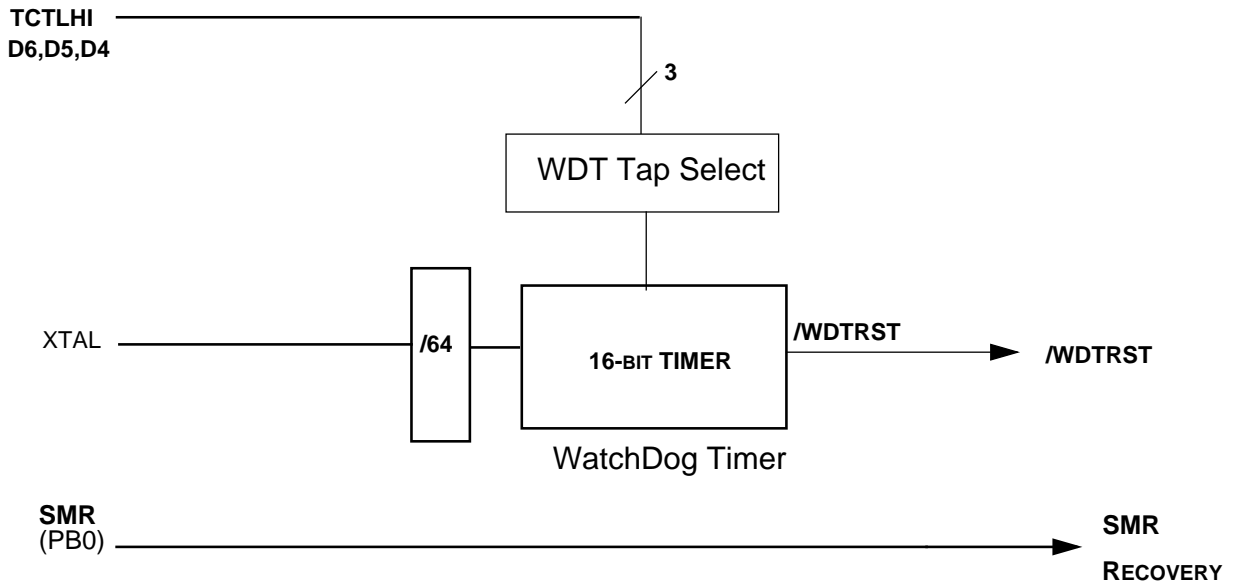

Figure 11. Z8E001 Reset Circuitry with WDT and SMR
**WDT Time Select (D6, D5, D4).** Bits 6, 5, and 4 determine the time-out period. Figure 11 shows the range of timeout values that can be obtained. The default values of D6, D5, and D4 are all 1, thus setting the WDT to its maximum timeout period when coming out of RESET.